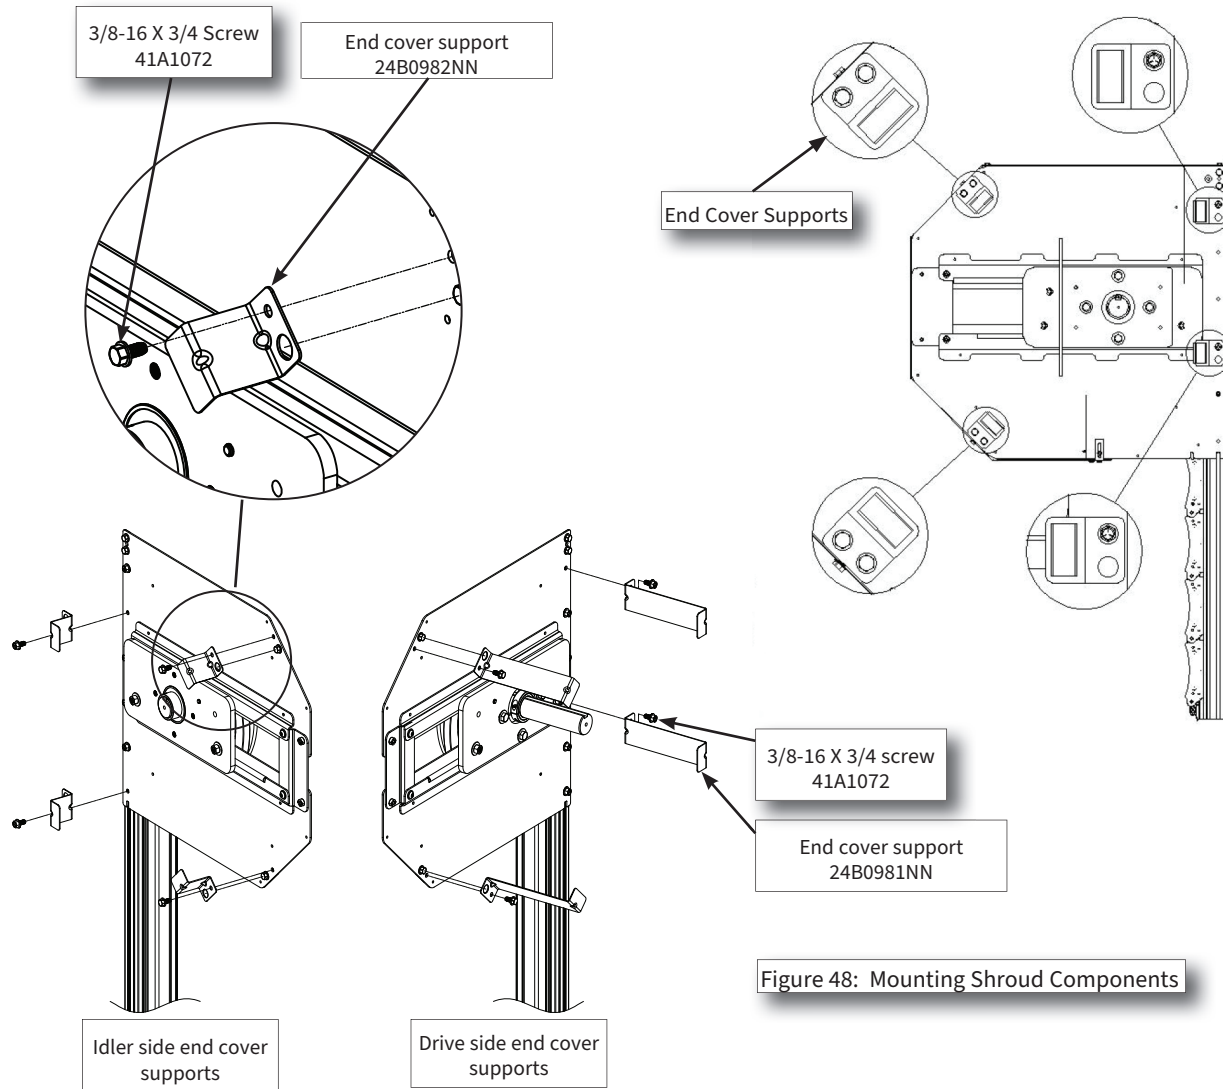

Figure 48: Mounting Shroud Components
3. Note that the (2) front end cover supports have one larger hole that goes over (1) existing screw holding in header cross tubes. Supports have an adhesive backed velcro pad on cover mounting flange, and supports are mounted with these flanges facing towards center of header plates (Figure 48).
4. Mount end cover supports on idler & drive sides as shown, removing (1) screw from cross tubes where needed and re-use those screws to mount supports (Figure 48). Leave removable paper coating in place until mounting end covers in a later step.